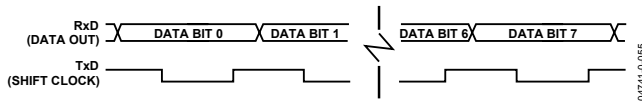

Figure 58. 8-Bit Shift Register Mode
Reception is initiated when the receive enable bit (REN) is 1 and the receive interrupt bit (RI) is 0. When RI is cleared, the data is clocked into the RxD line, and the clock pulses are output from the TxD line as shown in Figure 58.